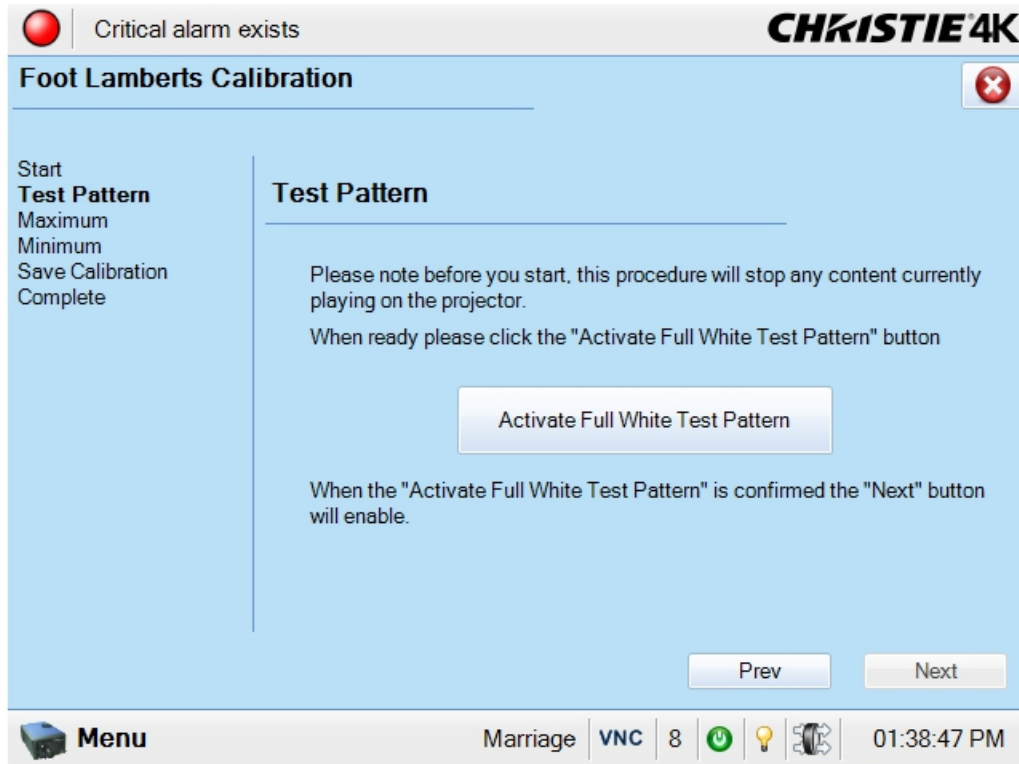

Figure 3-49 Click to Activate a Full White Test Pattern
2. In the **Test Pattern** window, you need to click the **Activate Full White Test Pattern** button before proceeding. (**Figure 3-49**). **NOTE:** *This procedure will stop any content currently playing on the projector.* Click the **Next** button to proceed to the **Maximum** window.